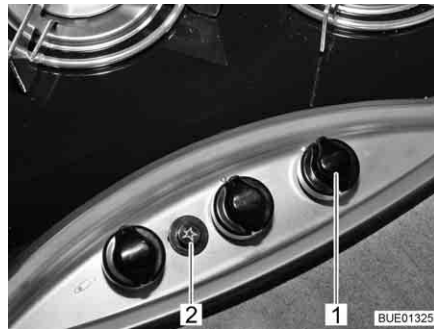

Fig. 185 Operating controls for gas cooker
- Turn the control knob (Fig. 185,1) on the burner you wish to use to the ignition position (large flame).
- Press lighting knob (Fig. 185,2). Ignition sparks are generated at the burner.